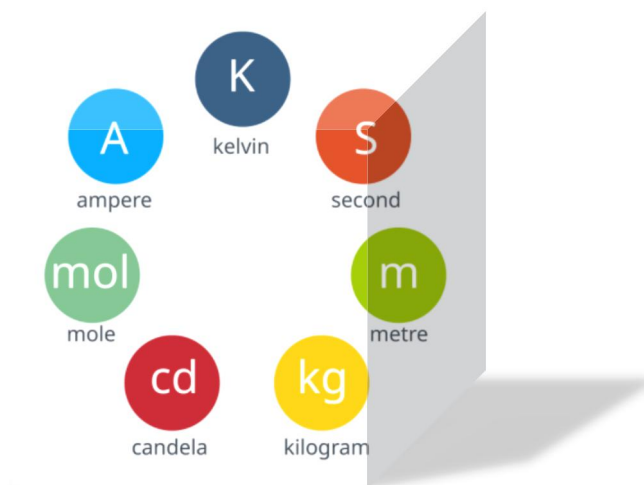

Figure 1.2 SI basic units
- The **International System of Units (SI)**, commonly **known as the metric system**, is the international standard for measurement.
- Figure 1.2** displays seven SI basic units in the system.